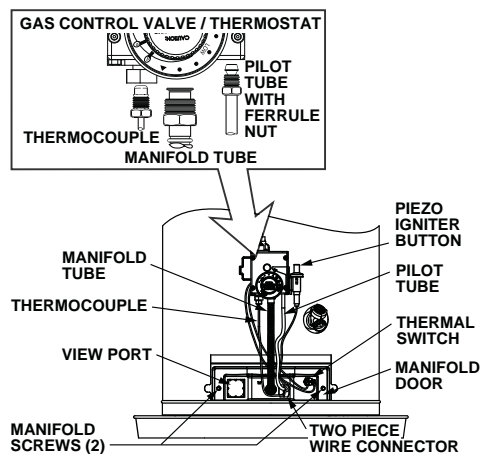

FIGURE 30.
2. On the lower front of the water heater, locate the gas control valve/thermostat (Figure 30). Before performing any maintenance, it is important to turn the temperature dial on the gas control valve/thermostat to its lowest setting.
5. Remove the two screws securing the manifold/burner assembly to the combustion chamber (Figure 30).
6. Disconnect the following items from the gas control valve/thermostat: thermocouple, pilot tube, and manifold tube (each has right-hand threads). See Figure 30.
7. Disconnect the igniter wire from the piezo igniter button. See Figure 30.
6. Reconnect the manifold tube, pilot tube, and thermocouple to the gas control valve/thermostat. See Figure 30. Do not cross-thread or apply any thread sealant to these fittings. The thermocouple nut should be started and turned all the way in by hand. Tighten an additional quarter turn with a 7/16" open-end wrench.